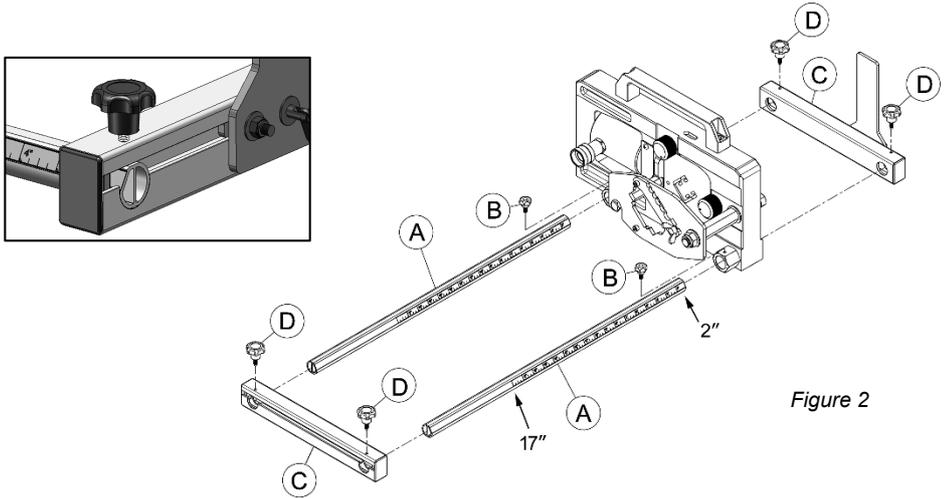

Figure 2
See Figures 2 and 3.
1. Insert two guide bars (A) through the frame holes. The guide bars are identical; however, they must be oriented as shown in Figure 2. Tighten the guide bars in place with the small lock knobs (B).
2. Slide base (C) with stock stop attached onto the bars. *Make end of bars flush with outer surface of base* to ensure proper scale use, see Figure 2 inset. Install large lock knobs (D) to secure.
3. Slide base (C) onto opposite end of bars as shown. It is not important that the bar be flush on this end. Secure with knobs (D).